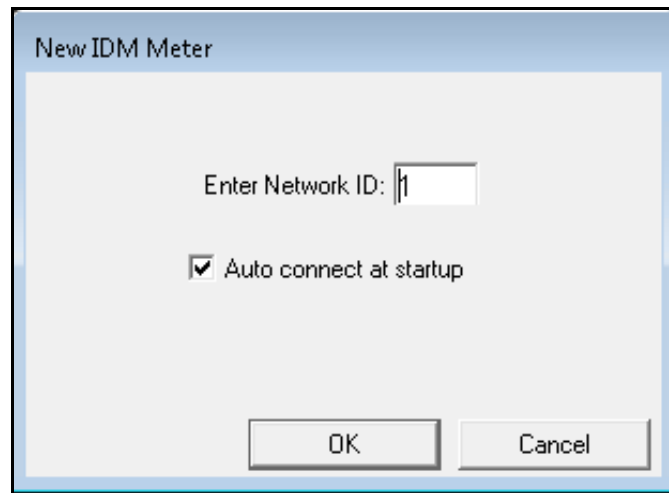

Figure 38: Add IDM New Meter
6. After selecting the "New" and "Meter" options, the dialog box shown in Figure 38 below opens (If *Panalink* selected as protocol while "Adding a New Communication Port" on page 29, go to step 7 in page 34). Enter *Network ID* or *Node ID* and click [OK] to initialize New Meter.